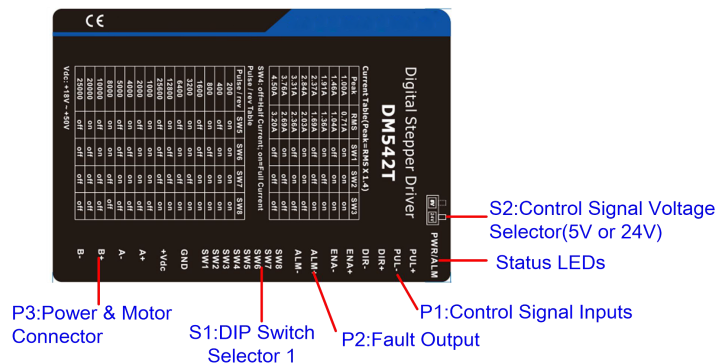

Figure 2 Connectors, DIP switches, and LED locations
PUL+	Pulse and Direction Connection: (1) Optically isolated, high level 4.5-5V or 24V, low voltage 0-0.5V (2) Maximum 200 KHz input frequency (3) The width of PUL signal is at least 2.5µs, duty cycle is recommended 50% (4) DIR signal requires advance PUL signal minimum 5 µs in single pulse mode (5) The factory setting of control signal voltage is 24V, must need to set S2 (figure 2) if it is 5V
The DM542T(V4.0) can accept can accept differential or single-ended control signals (pulse, direction, and enable) in open-collector or PNP connection through the P1 connector (figure 2). It is recommend to add an EMI line filter between the power supply and the drive to increase noise immunity for the drive in interference environments.
- (1) ENA signal is no-connected as default;
- (2) Control signal amplitude is 24 V as default. If it is 12 V, please set the S2 (Figure 2) selector switch to 5 V first, then connect 1KΩ resistor; If it is 5V, please set the S2 to 5V.
The second 1-bit selector is located on the top (S2 in figure 2), used to configure the voltage of control signals. For the safety of optically coupled, the factory setting is 24V, which no need to connect 2K resistors like the old drives, making it easier to use. When the voltage of the control signal is 5V, the S2 must be set to 5V, otherwise, the motor won't work.